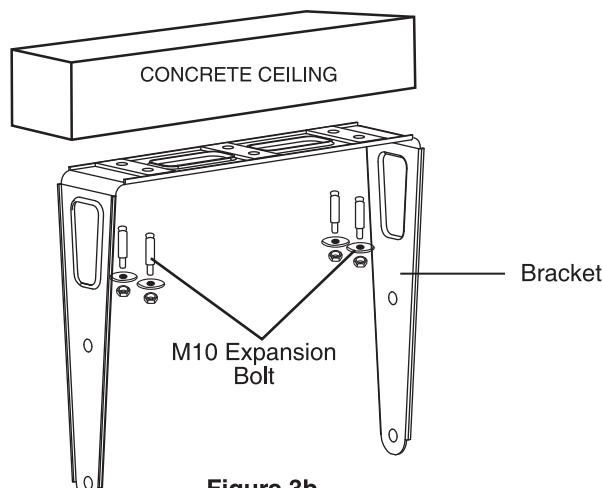

Figure 3b
B. Mount the bracket with the concrete ceiling. Refer to **Figures 3b**.
2. Place the **M10 Expansion Bolt(s)** as shown in the **Figures 3b**.